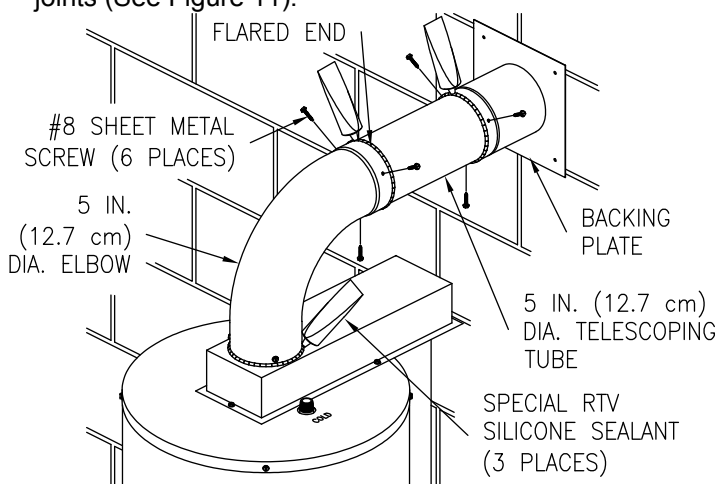

Figure 11
11. From inside the building, slide the backing plate over the five (5) inch (12.7 cm) diameter telescopic tube until it is flush with the wall. Adjust the length of the five (5) inch (12.7 cm) diameter telescopic tube and insert the end into the flared end of the five (5) inch (12.7 cm) diameter elbow one (1) inch (2.5 cm) (or until seated). Drill three (3) 1/8 inch (3.0 mm) diameter holes, 120° apart, through the five (5) inch (12.7 cm) diameter elbow into the five (5) inch (12.7 cm) diameter telescopic tube and through the tubes where the small and large sections overlap. Fasten with three (3) #8 sheet metal screws (supplied). Using the supplied special RTV silicone sealant, apply a sufficient amount to seal all joints (See Figure 11).